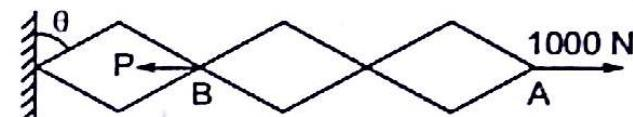

Fig. 9.40
9.10 A number of rods are hinged together to form three identical rhombous as shown in the figure 9.40. If a horizontal force of 1000 N is applied at A, what is the force P required at B for equilibrium?